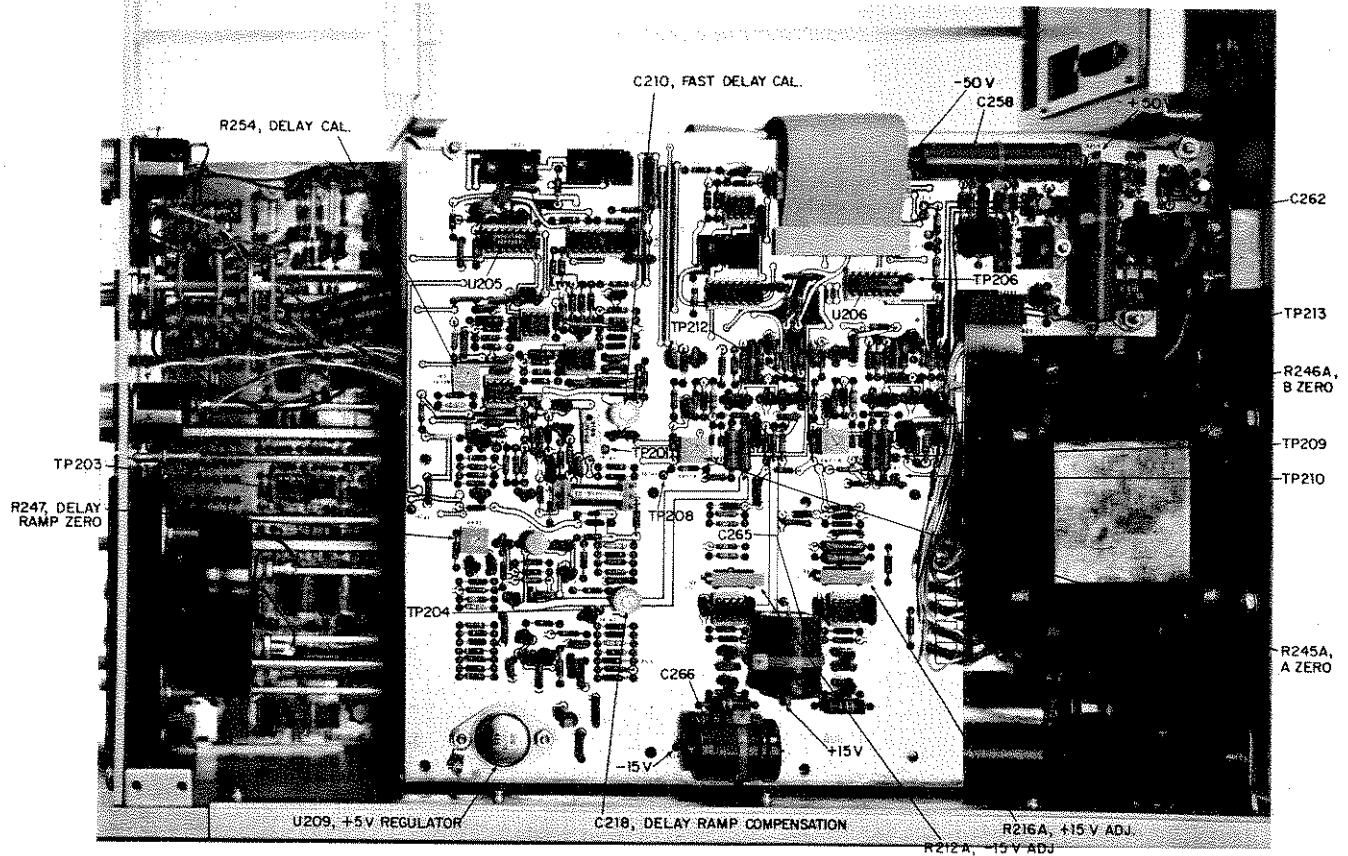

Figure V-1. LOCATION OF MODEL 162 UPPER BOARD ADJUSTMENTS AND TEST POINTS
5.4B POWER SUPPLY CHECKS AND ADJUSTMENTS (Refer to Figures V-1 and V-2 for location of indicated points)
- (1) Frequency Response (C115A and C121A; lower board)
- (d) Be sure the compensation on the oscilloscope probe is properly adjusted. Then monitor the signal at TP108A. **NOTE:** The test points are small terminals identified by "foil" lettering on the boards, and by callouts in Figures V-1 and V-2.
- (2) Trigger Symmetry (R153A; lower board)